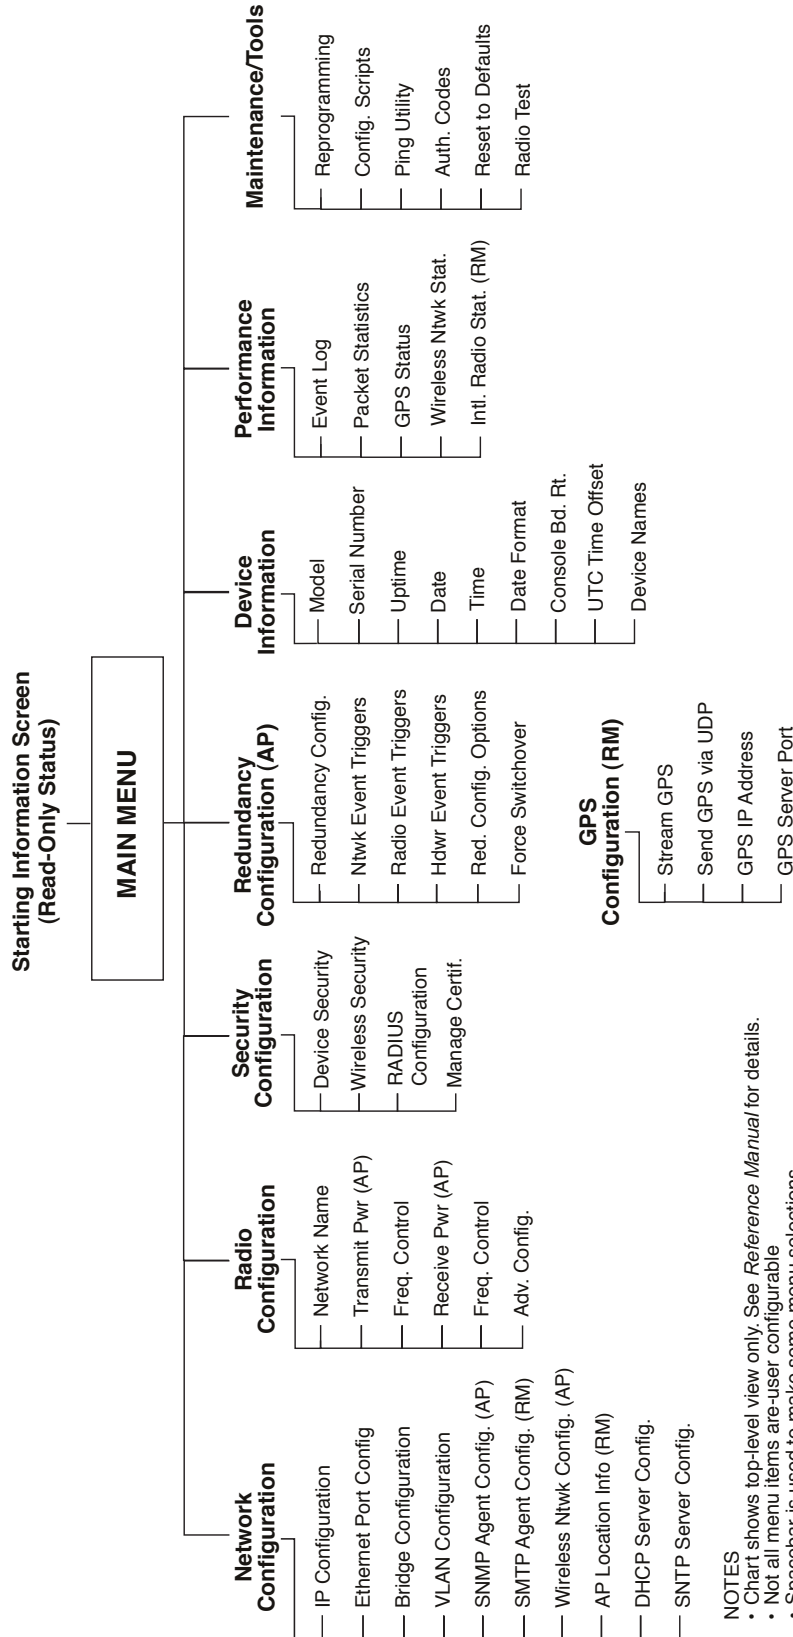

Figure 3-1. Embedded Management System—Top-Level Flowchart
Each of these sections has a focus that is reflected in its heading. The section you are now reading provides information on connecting to the Management System, how to navigate through it, how it is structured, and how to perform top-level configuration tasks. Figure 3-1 on the following page shows a top-level view of the Management System (MS).